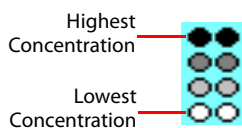

Figure 5-11: Concentration Representation in Dilution Series
3. Select the appropriate dilution orientation: (see Figure 5-11).